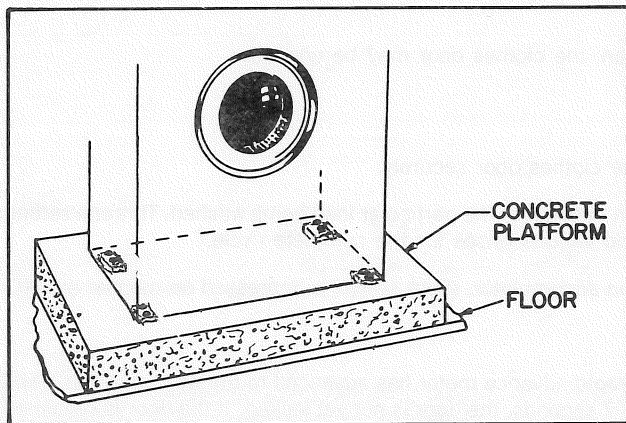

FIGURE 1-3 BOLTING - FURNISHED SPACERS
1. The recommended method of installation is to use the spacers between the cabinet base and the supporting members (see Figure 1-3).